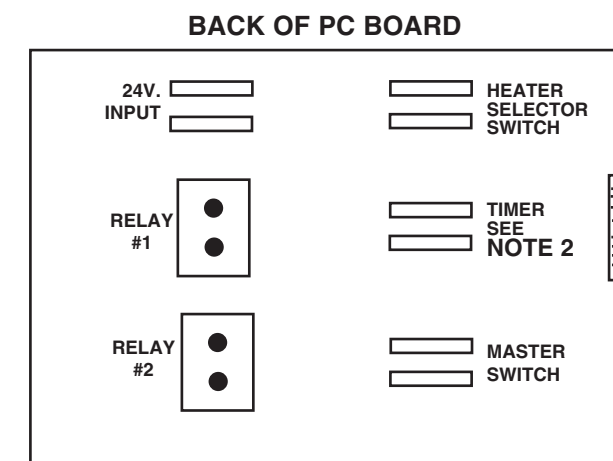

Figure 4 Input/Output Connections
- Connect 120 or 240-volt filter pump supply to these leads. The double pole relay controlling the filter pump will close, as set by Jumper 2 either in the pool mode or in the spa mode. If the dry contacts of a time clock are connected to the two time clock terminals (See figure 4), the relay contacts will open and close as scheduled, however, its state can be reversed by pushing RELAY 2 button on face of Control.